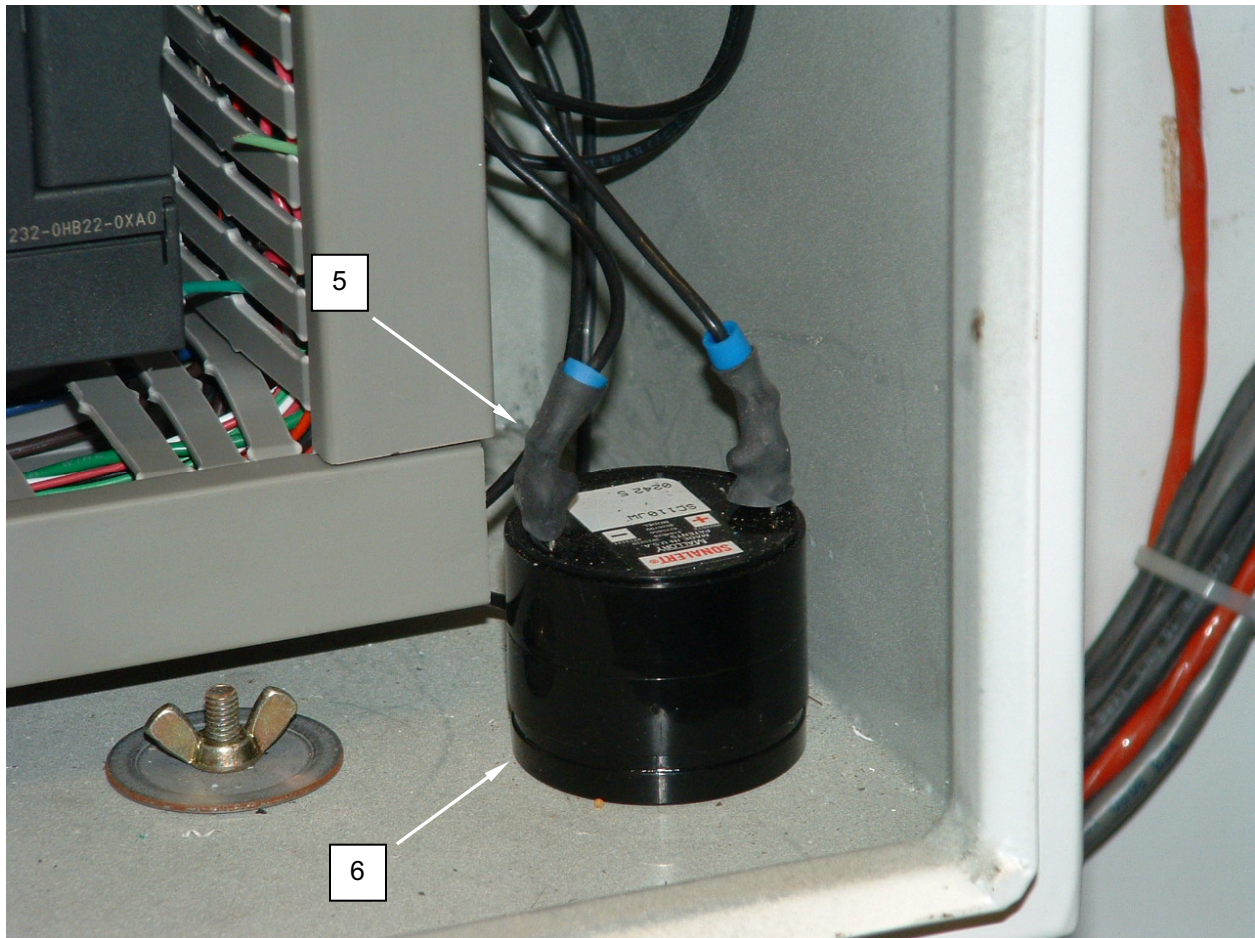

Figure 7. Test Audible Alarm.
3. Strip the heat shrink insulation (**Figure 7, Item 5**) from the wiring connections.
4. Tag and disconnect wiring from audible alarm (**Figure 7, Item 6**).